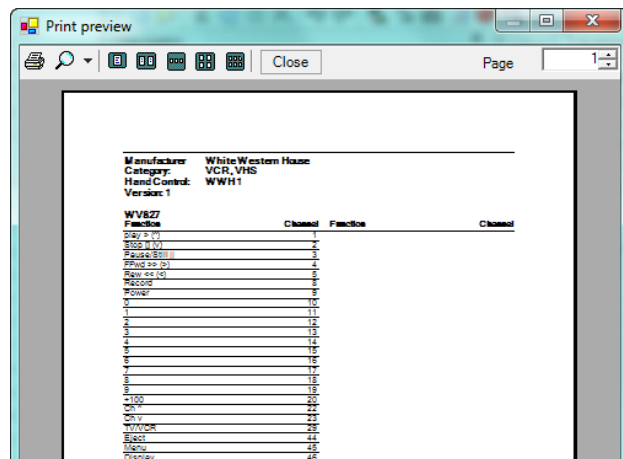

FIG. 41 Print Preview window
1. Choose **File > Print Preview** to open the *Print Preview* window (FIG. 41), to preview the file as it will be printed (if necessary).